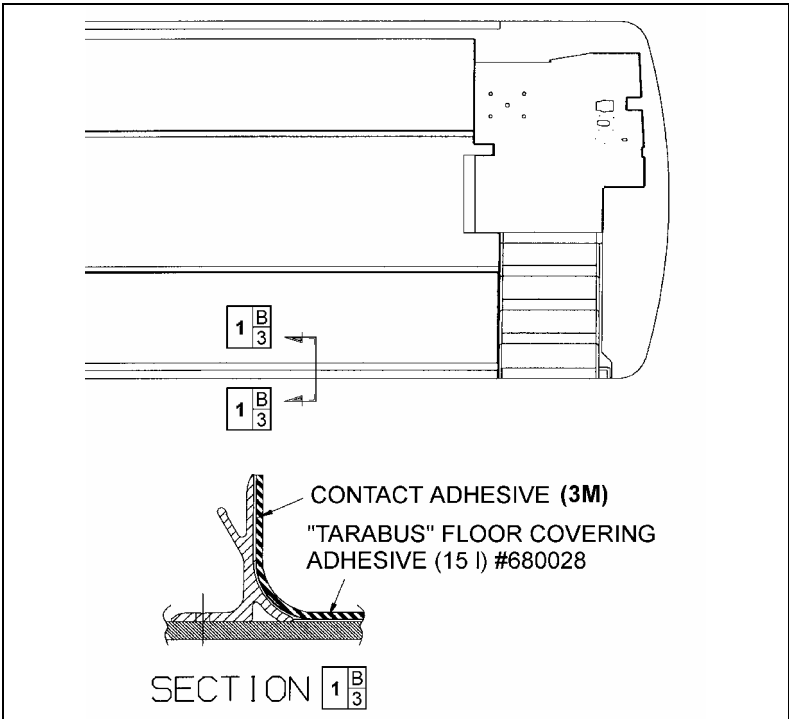

FIGURE 45: TARABUS FLOOR COVERING ADHESIVE APPLICATION 18640
6. Apply floor covering adhesive (680028) onto plywood using a serrated spreader with 1/8-inch serration. If required, apply contact adhesive (3M) (684655 or 684654) onto aluminum molding and also onto section of floor covering, which will be in contact with molding (refer to figure 45).